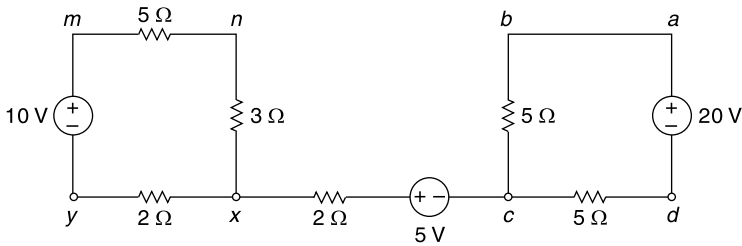

Fig. 4.48 Circuit of Ex. 4.33
4.33 Find the voltage drop between terminals (y) and (d) in the network of Fig. 4.48.